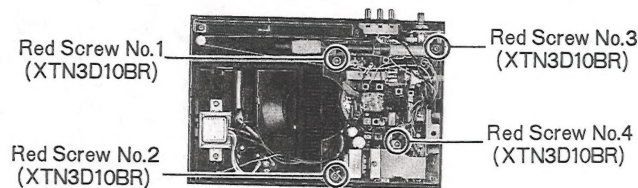

Fig. 3
7. Remove four (4) red chassis screws, nos. 1~4, as illustrated in fig. 3.
8. To remove chassis completely, unsolder lead wires to lead terminal and remove switch holder (AC/BATT, LOUDNESS, PHONO/RADIO), as illustrated in fig. 3.
- * When open the cabinet cover, always remove four (4) control knobs.